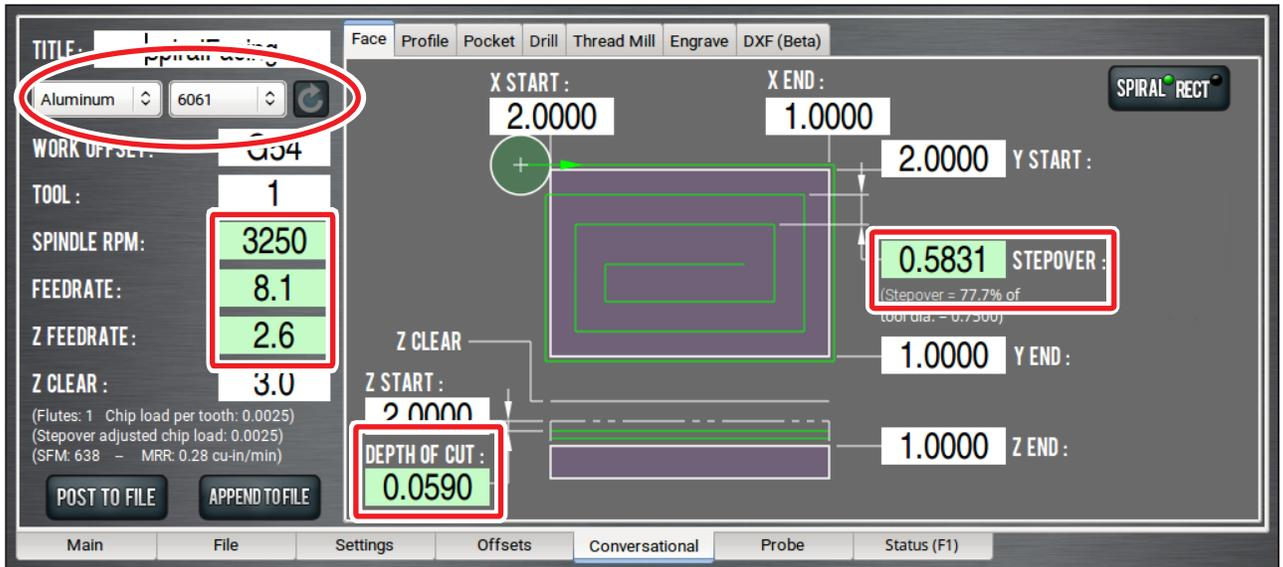

Figure 6.23
You can use PathPilot to automatically calculate feeds and speeds: from the *Conversational* tab, in the *Conversational DROs* group, select a material, a sub-type, and a tool (see **Figure 6.23**).
**NOTE:** After PathPilot calculates values for the machining-related DROs, the background turns green (see Figure 6.23).